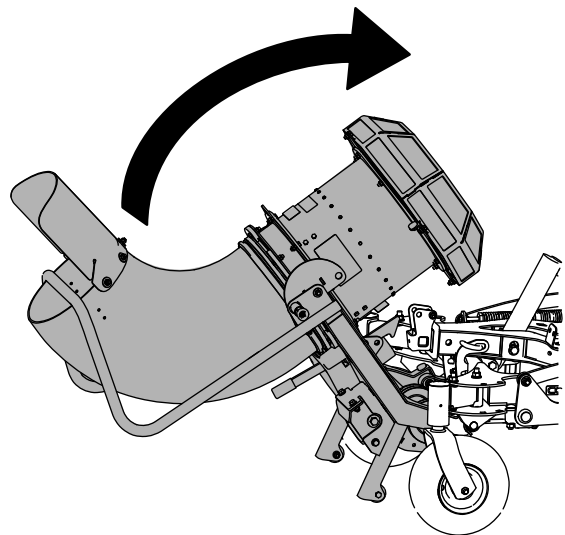
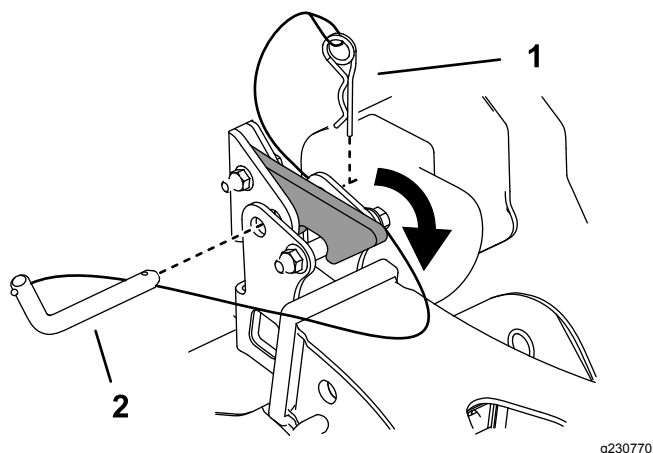

Figure 24
Figure 25
1. Raise the blower so that it latches on the hitch receiver (Figure 24 and Figure 25).
2. Secure the assembly to the hitch receiver using the hitch pin and hairpin cotter attached to the receiver (Figure 25).